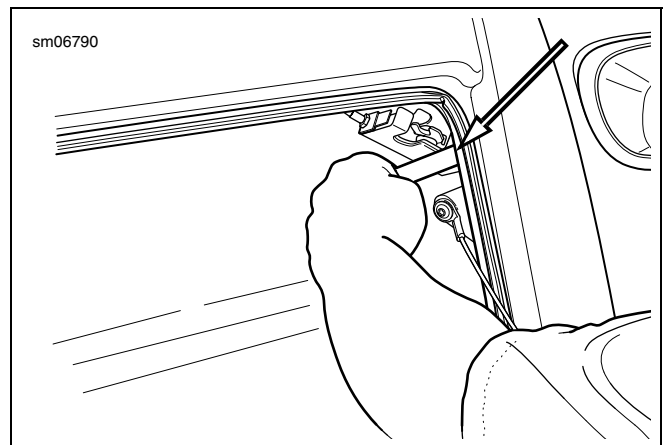

Figure 7. Measure Latch Clearance
- Repeat the check near each upper corner. If the paper moves freely at any check point, adjustment is necessary. Equally reduce dimension (2) slightly on both latch pins and retest.
- See Figure 7. If the latch pins are at the extreme adjustment and the seal contact is still too loose, use a feeler gauge to check the distance between the inside of the body and each latch mechanism. Carefully bend both latch mechanisms, if necessary, to obtain a maximum